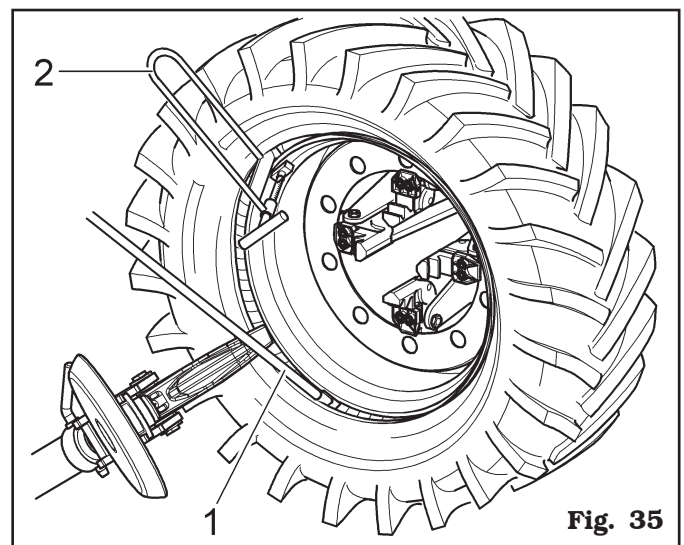

Fig. 35
- Turn the mandrel clockwise until lever (Fig. 35 ref. 1) is introduced in the housing obtained on the hook tool.
- Turn the mandrel with lever (Fig. 35 ref. 1) hooked until complete insertion of the tyre outer bead.
- Remove lever (Fig. 35 ref. 1), grippers (Fig. 35 ref. 2) and extract the hook tool by turning the mandrel counterclockwise and translating it outwards.